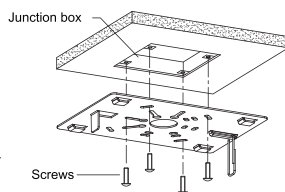

Figure 2
- Use provided hardware (4 mounting screws) to fix mounting plate to embedded J-box (not provided) (Figure 2).